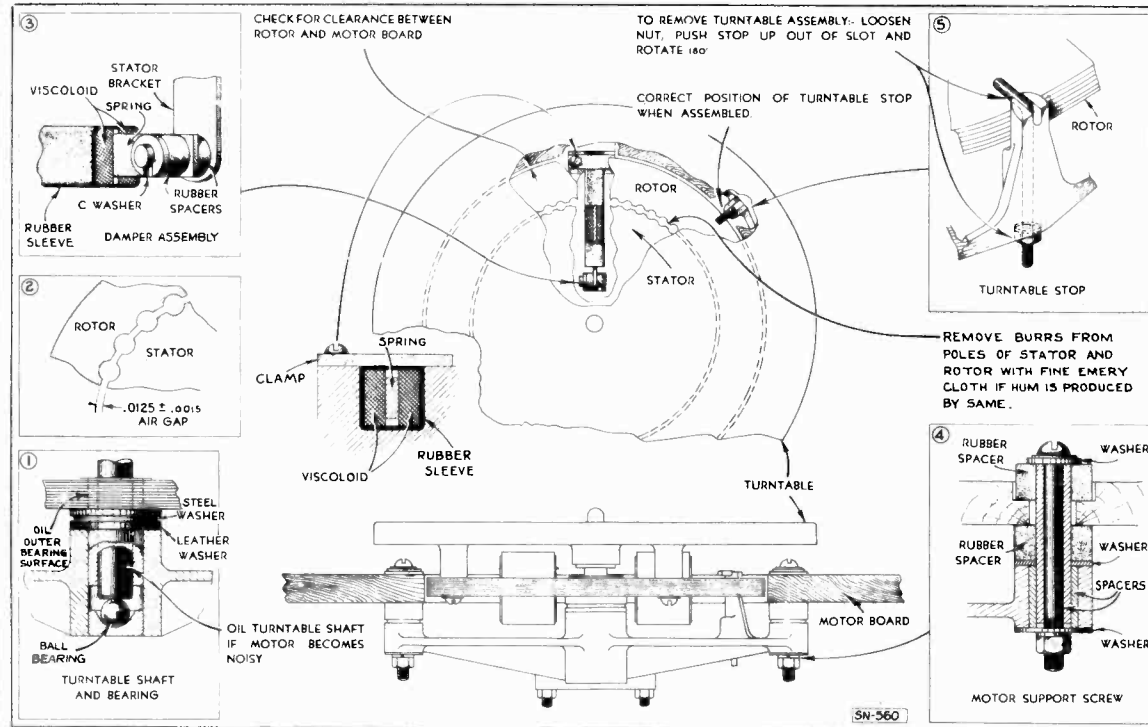

Figure 6—Details of Motor (Second Production)
**NOTE:** The motor used in the Second Production R-93 turntable is somewhat different from that used in the first production. The turntable is designated as "First Production" and the motor as "Second Production." Changes denoting the difference between the two types are indicated in Figure 5 (First Production) and Figure 6 (Second Production). Replacement parts are likewise tabulated separately for each type.
(2) Second Production. Loosen the nut shown in Figure 6, pushing the stop out of the slot and rotating 180 degrees. Then lift the turntable, being careful not to lose the ball end-bearing. After replacing the rotor, return the rotor to its normal position and tighten the nut securely.